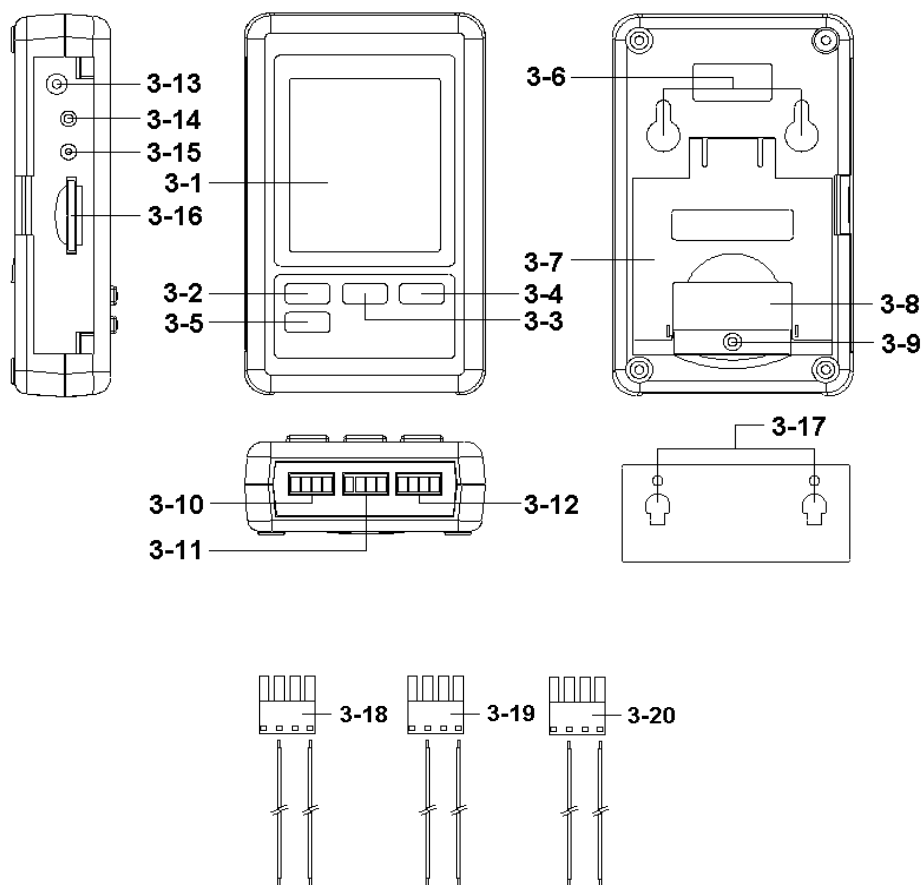

Fig. 1
- * Loose the " Screw of the battery cover " (3-9, Fig. 1) and take away the " Battery Cover " (3-8, Fig. 1) from the meter.
- * Plug the output plug of " AC to DC adapter " into the " DC 9V power adapter input socket " (3-13, Fig. 1)
mV CH 1 input plug (3-18, Fig. 1)
mV CH 2 input plug (3-19, Fig. 1)
mV CH 3 input plug (3-20, Fig. 1)
- mV CH 1 input socket (3-10, Fig. 1)
- mV CH 2 input socket (3-11, Fig. 1)
- mV CH 3 input socket (3-12, Fig. 1)
Prepare a " SD memory card " (1 GB to 16 GB, optional), insert the SD card into the " SD card socket " (3-16, Fig. 1) with the correct direction exactly.
Press the " Logger button (3-2, Fig. 1) > 2 seconds continuously, until the Display show the indicator " DATALOGGER ", release the " Logger Button " (3-2, Fig. 1), then the measuring data along the time information will be saved into the memory circuit.
During execute the Datalogger function (Display show the " Datalogger " indicator), press the " Logger button " (3-2, Fig. 1) > 2 seconds continuously, until the Display indicator " DATALOGGER " is disappeared, release the " Logger Button " will finish the Datalogger function.
Press " Time button " (3-3, Fig. 1) > 2 seconds continuously, the LCD display will present the time information of Year/Month/Date, Hour/Minute/Second and the sampling value.